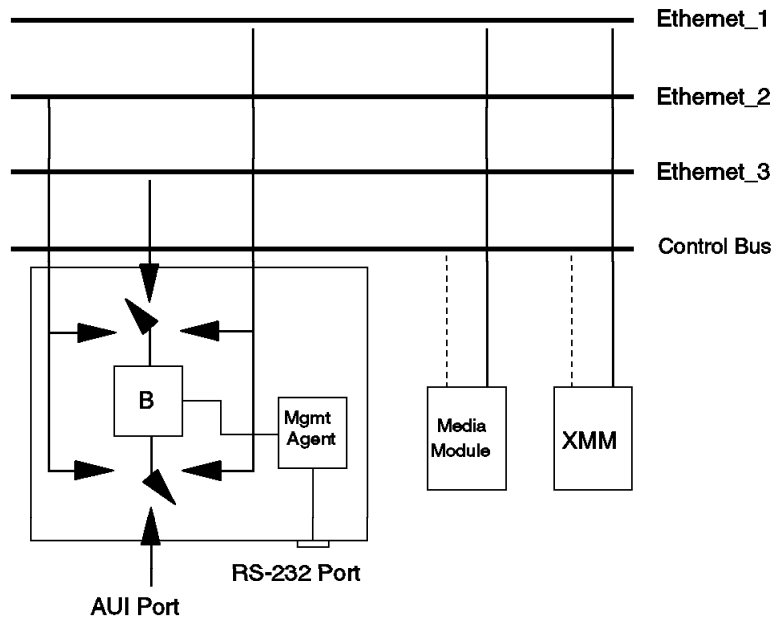

Figure 94. Topology Switching
Figure 94 shows how the internal *multi-switch* (B) residing in the bridge module allows you to bridge the AUI port to any backplane network or to bridge any two backplane networks.